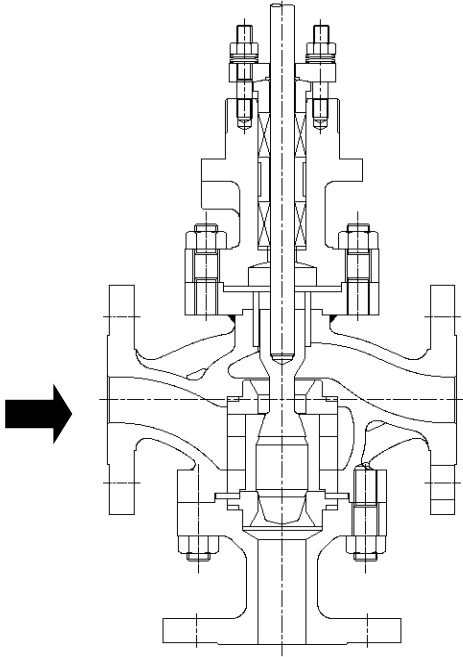

Fig 1.1 Divert Type
A) The 3-way globe valve is largely classified into single contoured plug type and cage plug type. (See Fig 1.1, 1.2 and 5.4)